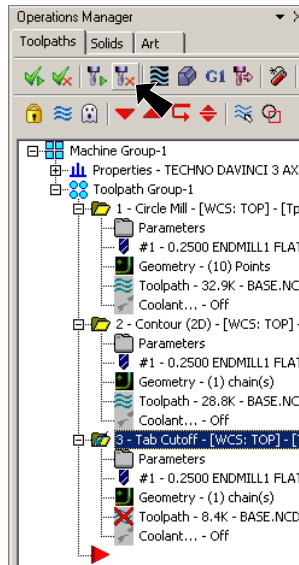

Fig. 44
Step 1. In the Toolpaths Manager, click **Regenerate all dirty operations** , Fig. 44.